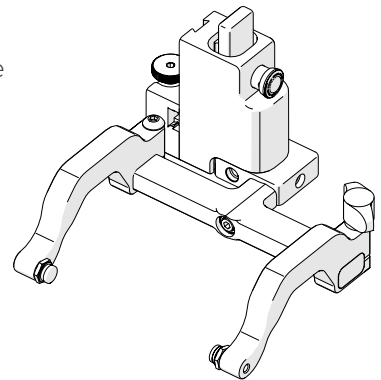

Fig. 61 - Alternate yoke size mounted
4. Place the probe holder arms on the yoke and tighten the arm clamp screw and probe holder adjustment screw (Fig. 61).